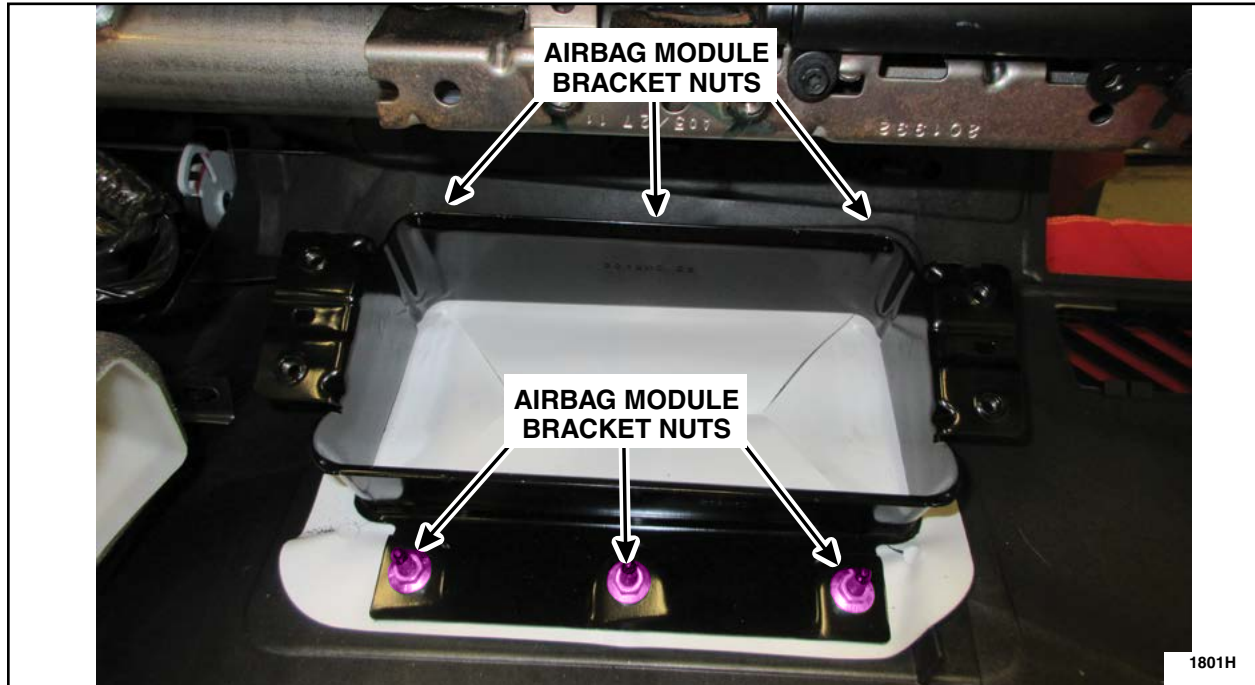

FIGURE 6
5. Remove the six (6) nuts retaining the airbag module bracket to the instrument panel. Remove the bracket from the instrument panel. See Figure 6.
8. Reinstall the airbag module bracket onto the instrument panel. See Figure 6.